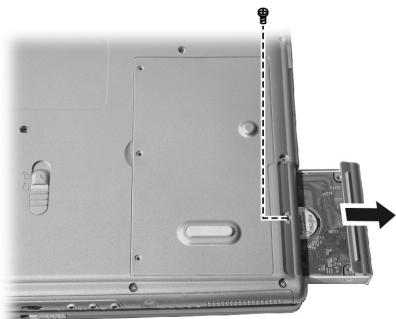

Figure 2-7
2. Remove one screw and slide the HDD module out of the compartment. (Figure 2-7)